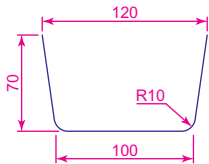

Fig. 17.30 Rulesurf – the outline
2. In the **ViewCube/Front** view construct the pline as shown in Fig. 17.30.